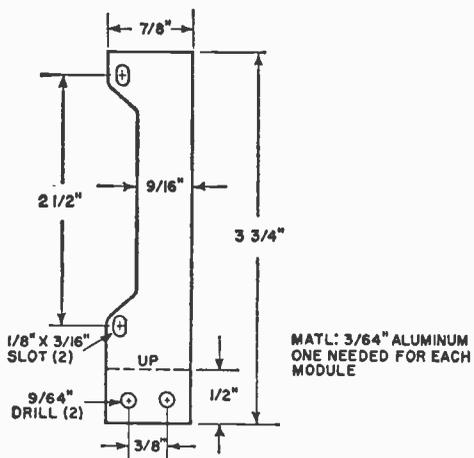
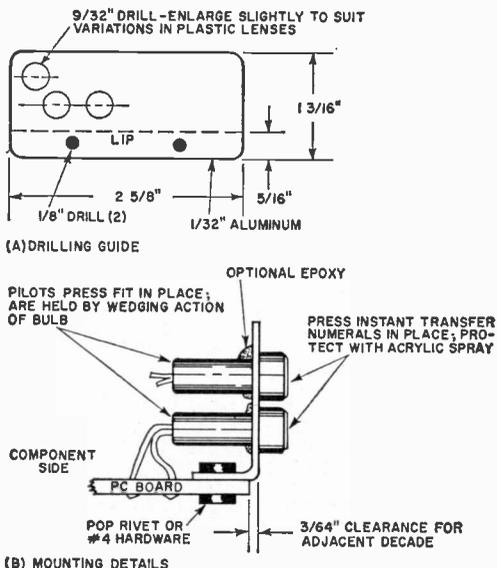

Fig. 11. If necessary, to avoid interference with components or wiring, deepen the notched cutout.
Fig. 12. Arrange lamp mounting holes in two closely spaced, staggered columns to obtain small size.
- Misc.—PC board, 3" x 3- $\frac{1}{4}$ ", PC terminals or eyelets (7) (optional), #24 jumpers (2), solder, lamp bracket (see Fig. 12), mounting bracket and hardware (see Fig. 11).
as those shown in Fig. 11 can be used. The photos show how these brackets are used for support.
A three-hole bracket is required for the indicator lamps of the gate module. This can be fabricated as shown in Fig. 12. (One of the brackets supplied with the DCU kit can be used as a guide.) Use orange plastic covers for the 0 and 1 bulb, and a red one for the overrange indicator.
Misc.—Vinyl clad aluminum case and support assembly,  $\frac{3}{4}$ " knobs (2), 1- $\frac{1}{2}$ " knob (1), backup plate for controls, dialplate (optional), mounting hardware, brackets for M2, M3, (see Fig. 11), wire, solder, 1300- to 1500-ohm precision resistor, green jewels (2), etc.